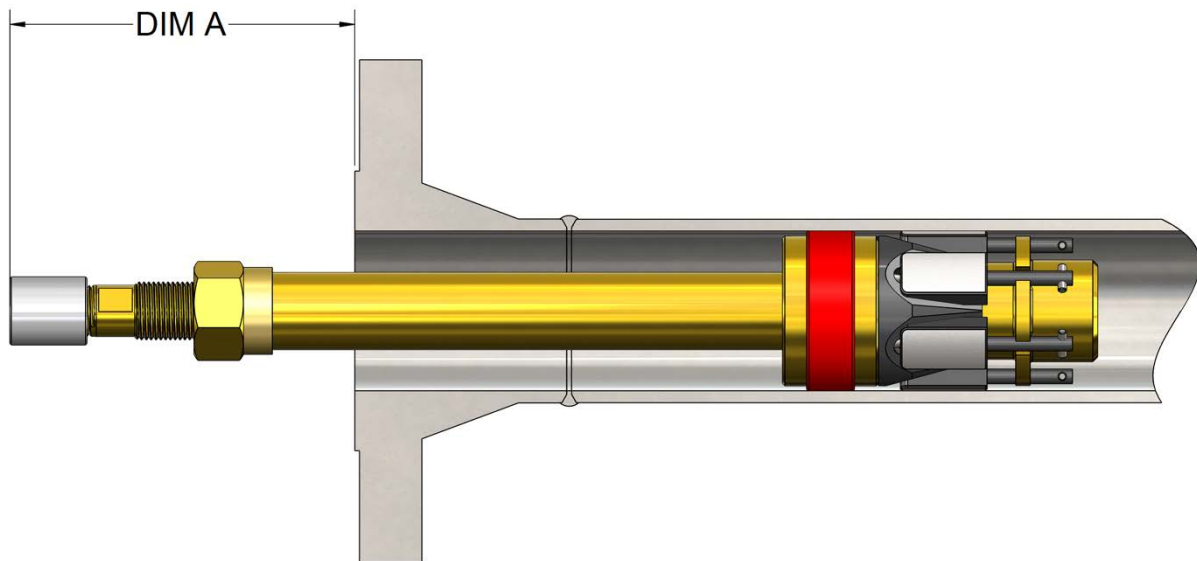

Figure 6: GripSafe ST IIB Depth Insertion
- Insert the GripSafe ST IIB plug into the pipe, **Wedge Gripper(15)** side first, see Figure 6.
- When testing a weld neck flange weld, the **IIB Bottom Compression Plate(12)** for sizes ¾” – 2” or the **Sealing Compression Ring(18)** for sizes 2.5” – 4.00” must be inserted past the weld droop and “DIM A”, shown in Figure 6, cannot be longer than the “Bore Depth Per Flange Class” listed on Table 3. Measurements larger than specified values from “DIM A” will interfere with the installation of the test flange.